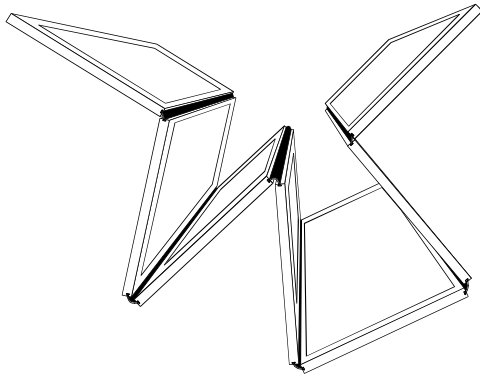

Fig. 2
- Open the screen sections like an accordion to form a rough rectangle (See Fig. 2).
The Add-A-Room is shipped from the factory with the door located against the house wall (see Fig. 2 above). To change the location of the door, proceed as follows: